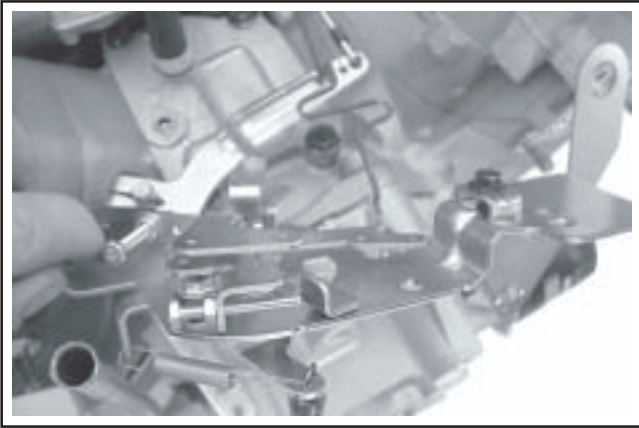

Figure 9-19. Tilting Bracket and Unhooking Choke Link.
3. Tilt the main bracket and disconnect the choke linkage from the choke lever. See Figure 9-19. Remove the main control bracket.